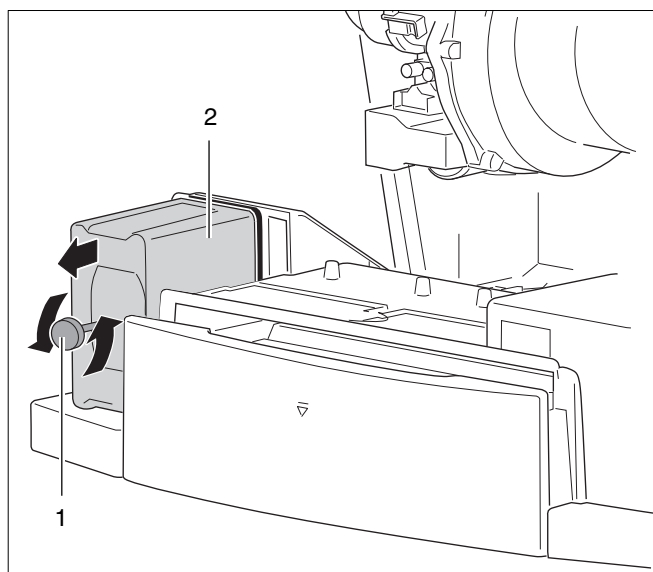

Fig. 60 Dismantling the UBA3
- Loosen the fastening screw of the UBA3 (see fig. 60, pos. 1).
- Remove the UBA3 by pulling it forward as indicated by the arrow (see fig. 60, pos. 2).